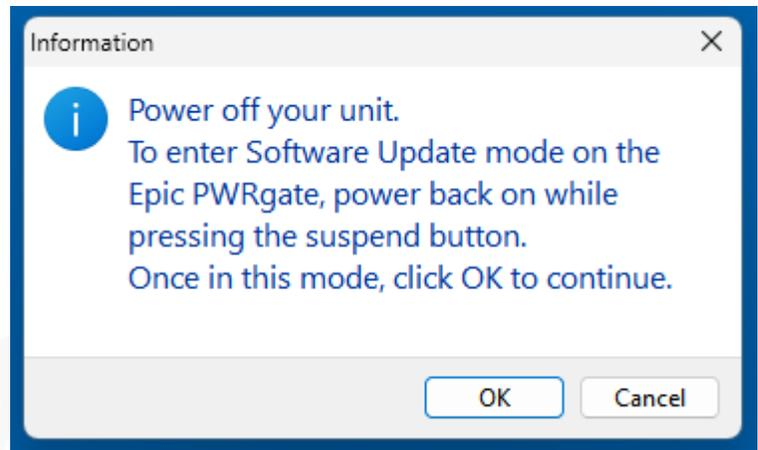

Figure 4
2. You should see an information Window telling you to power off the Epic device and the procedure to enter software update mode (figure 4).